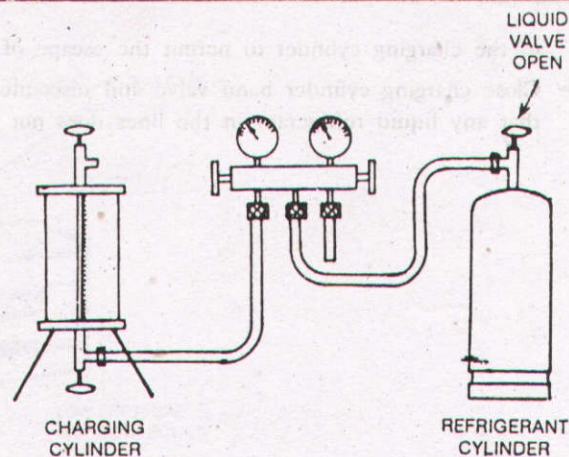

Fig. 2 CONNECTION FOR EVACUATING A CHARGING CYLINDER
- Remove the centre charging line from the vacuum pump and connect it to the valve on a cylinder of the proper type of refrigerant. If there is a liquid valve, connect the line to it (See Figure2).